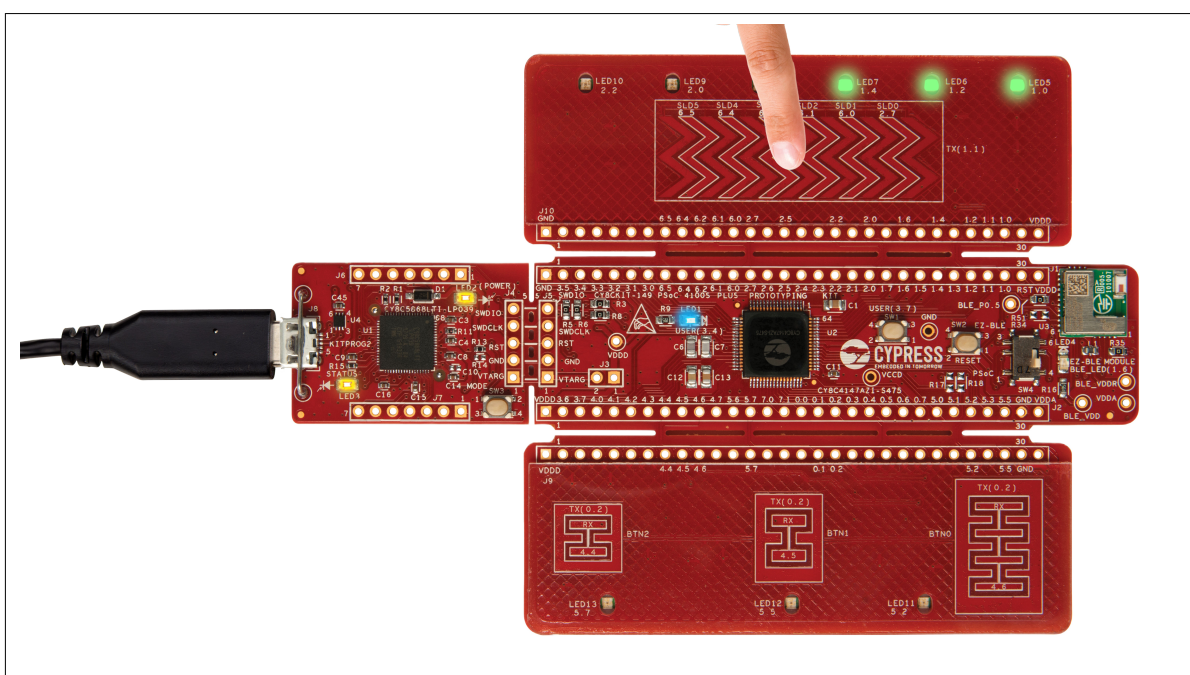

Figure 9 Capacitive slider operation with LED indication
3. Touch the slider with the finger and observe that LED 5, LED 6, LED 7, LED 8, LED 9, and LED 10 turn ON based on touch position, as shown in Figure 9